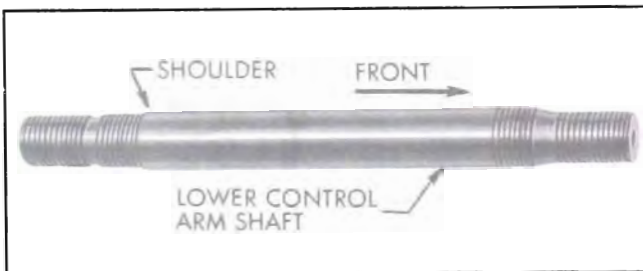

Figure 7-17—Lower Control Arm Shaft
**NOTE:** The shaft to front suspension cross member threads on the rear of the shaft are smaller than the threads on front of the shaft. See Figure 7-17. This permits removal of the shaft after the threads on the shaft are disengaged from their respective threads in the front suspension cross member. The front of the shaft is stamped 'F'.